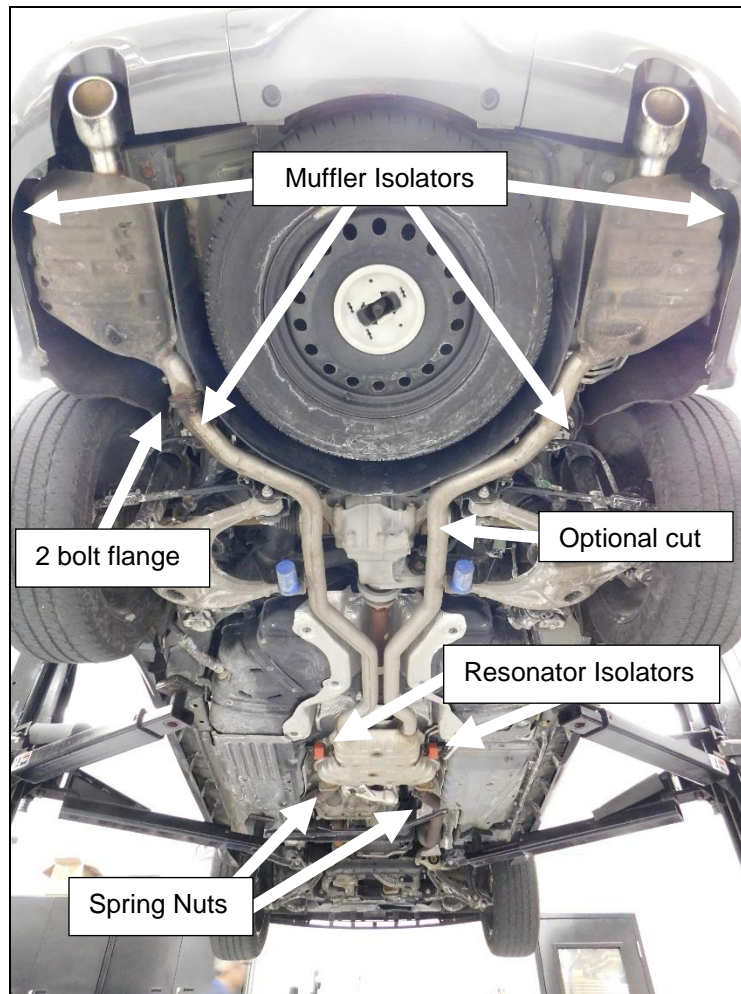

Figure 1
4. Spray the O.E muffler hanger isolators with WD-40® or equivalent. Remove the rubber isolators from the muffler assemblies. Use a pry bar to help push the isolator off the hanger rod (**Figure 1**).
NOTE: Cutting the factory exhaust at the location shown in **Figure 1** will simplify the removal process, but is not necessary.
6. Support the resonator assembly. Remove the (x4) spring nuts from the connections at the resonator inlet, remove the (x2) 13mm bolts at each resonator isolator assembly on the left and right side of the resonator (**Figure 1**).